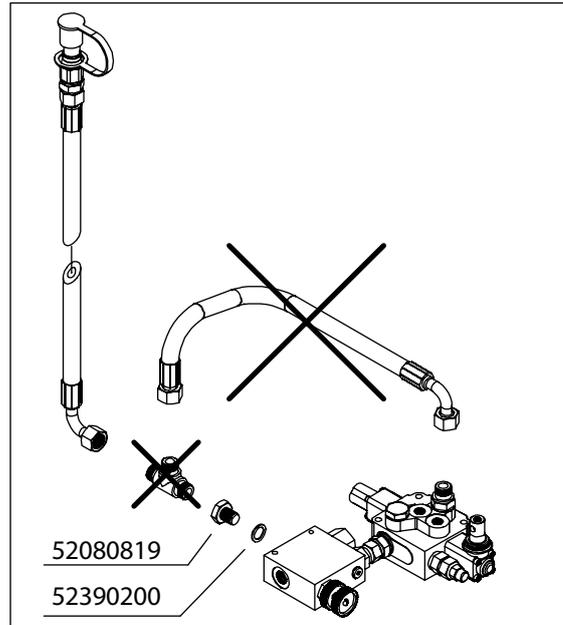

Fig 10. Removing the hose and T-nipple and inserting the plug in the end of the flow regulator valve
- Remove the hose and T-nipple and insert a plug in the end of the flow regulator valve - see Fig 10.